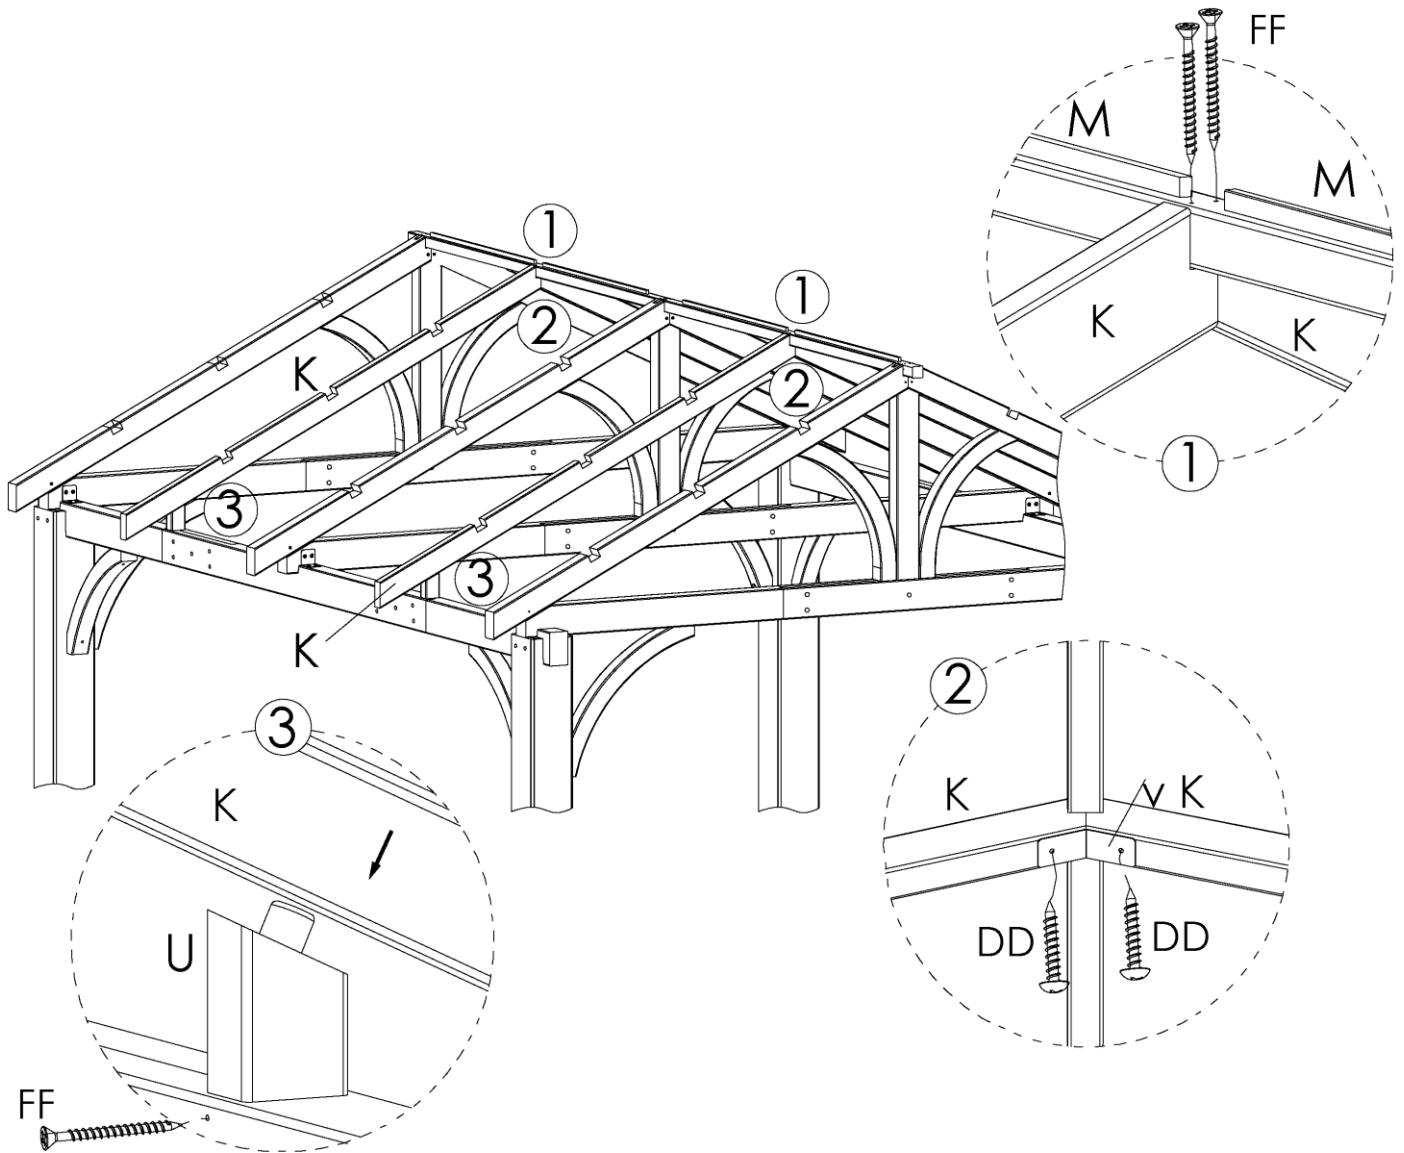

**Figure 12**
**Step 12:** Insert the Support Wood (U) into the Long Crossbeams (D1 and D3) See Figure 12.